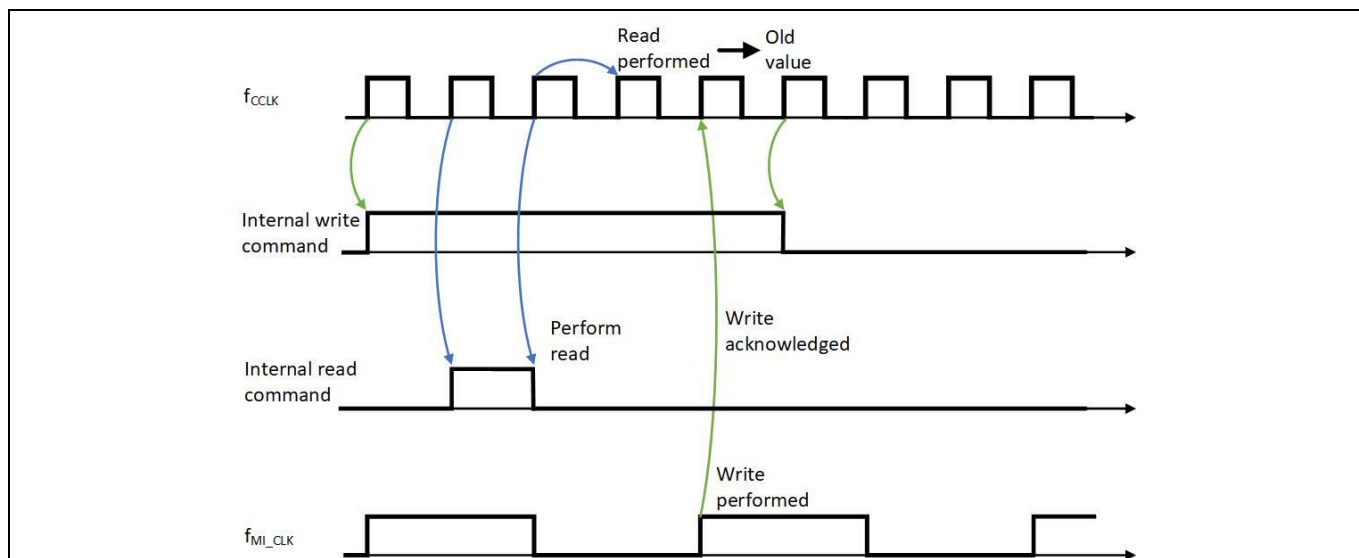
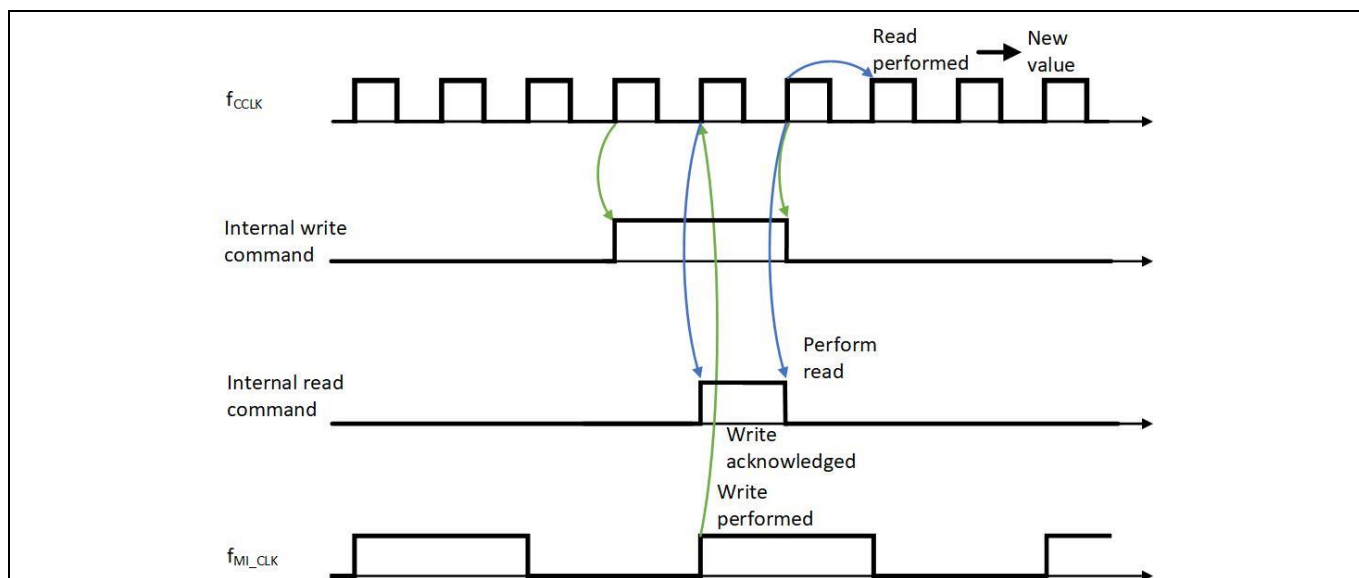

Figure 7 Long write time and false read
Figure 8 Short write time and correct read
If the register is clocked by the MI\_CLK, the delay between the latching of the internal write command and the actual write can be either long as one full  $f_{MI\_CLK}$  period, as shown in **Figure 7**, or as short as a full  $f_{CCLK}$  period, as shown in **Figure 8**.
A register read is requested by the core which is clocked by  $f_{\text{CCLK}}$ . The internal read command is latched with the rising edge of  $f_{\text{CCLK}}$  and cleared again with the next rising edge. The read command is performed by the core when the internal read signal is cleared. The read register content is available with the next rising edge of the  $f_{\text{CCLK}}$ . The read scheme is shown in **Figure 7** and **Figure 8**.
**Figure 7** shows, what can happen if a read command is requested one  $f_{\text{CCLK}}$  tick after the write command is requested. The read request will read back the old value, since the write command is still waiting for the rising edge of the MI\_CLK. **Figure 8** shows an example where the same timing between write and read will read back the new value.